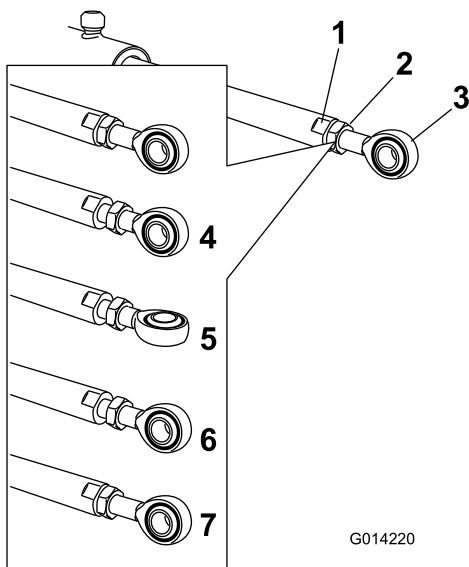

Figure 14
5. Use a wrench on the flat sides of the actuator rod to immobilize it, then loosen the jam nut to allow the eyelet rod to be manipulated (Figure 14).
- Turn the eyelet rod in the actuator rod to shorten or lengthen the extended actuator to the desired position (Figure 14).